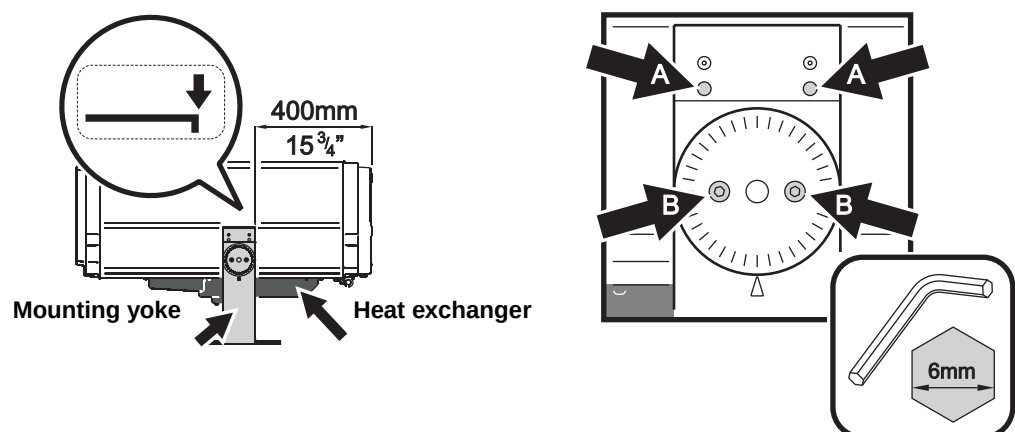
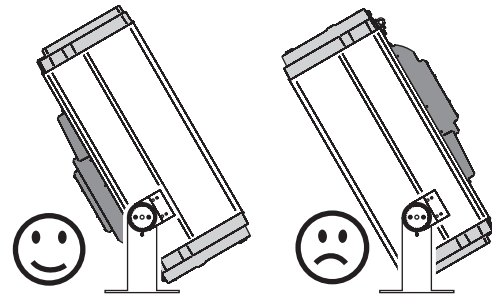

Figure 1: Mounting yoke adjustment
Figure 4: Heat exchanger position
See Figure 1. The mounting yoke is folded back for shipment. When the luminaire has been unpacked:
The Exterior 1200 Image Projector is rated UL Wet Location. When choosing a location for installation, consider that the main housing has an ingress protection (IP) rating of 65, but that the heat exchanger unit must be protected from rain or direct water projections that might fill the heat exchanger with water and cause overheating. The luminaire may therefore be installed in any orientation, but it must be positioned so that the heat exchanger is on the lower side of the luminaire (see Figure 4). If necessary, loosen the yoke tilt lock screws (**B** in Figure 1) and reposition the yoke.